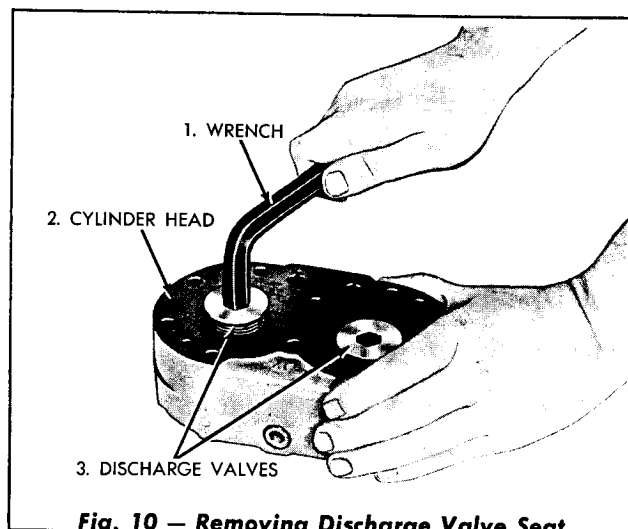

Fig. 10 — Removing Discharge Valve Seat from Cylinder Head
The discharge valve seat may be replaced by inserting an "Allen" wrench in the valve seat as shown in Fig. 10. Then unscrew the valve seat from the cylinder head.
1. Install the discharge valve seat if it was removed (Fig. 10).